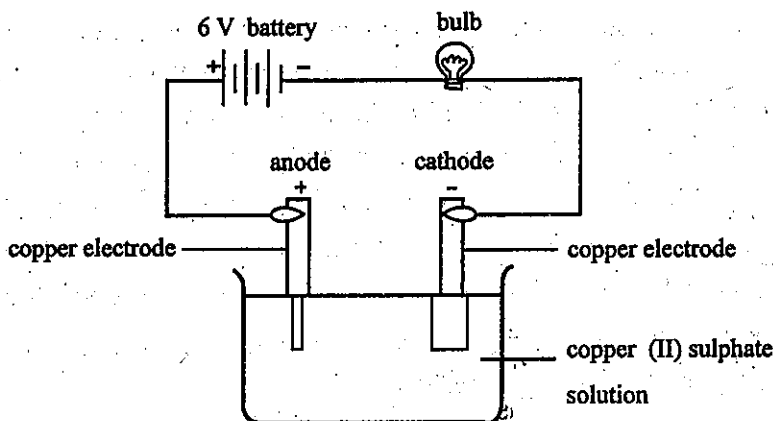

Fig. 4.5 Apparatus for electrolysis of aqueous copper (II) sulphate solution using copper electrodes
The electrolysis of copper (II) sulphate solution using copper electrodes is carried out as shown in Fig. 4.5.